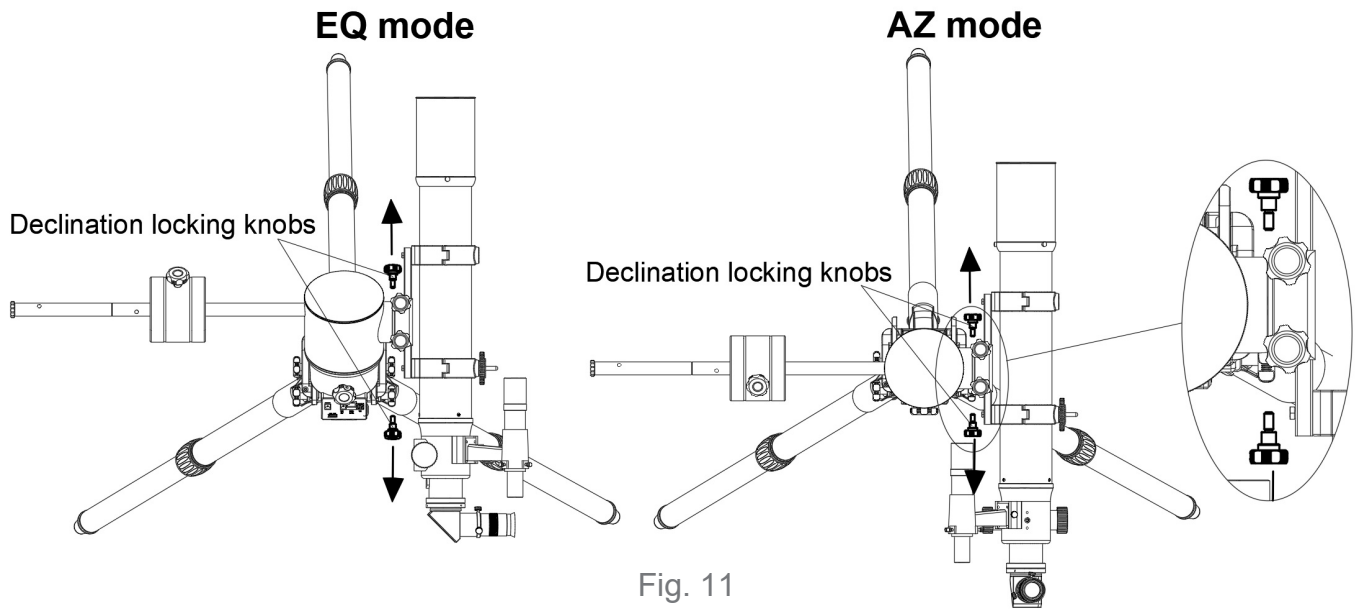

Fig. 11
* Hold the telescope with left hand and remove the two declination locking knobs.(Fig.11)